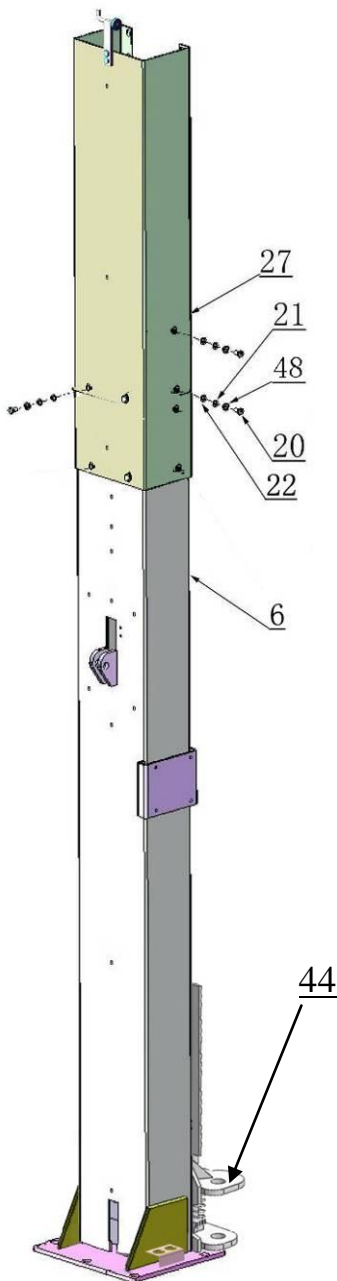

Fig. 15 Low Setting
1. When the ceiling height is less than 3850mm (151 1/2") for OH-9, 4460mm (175 5/8") for OH-9H, connecting the extension columns with the upper hole (**See Fig.15**).